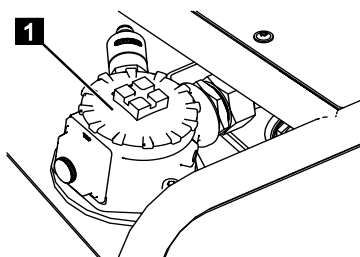

Fig. 247
2. Place suitable cloths for hydraulic oil around the hydraulic filter (Fig.247/1).
3. Unscrew the hydraulic filter's cap (Fig.247/1).